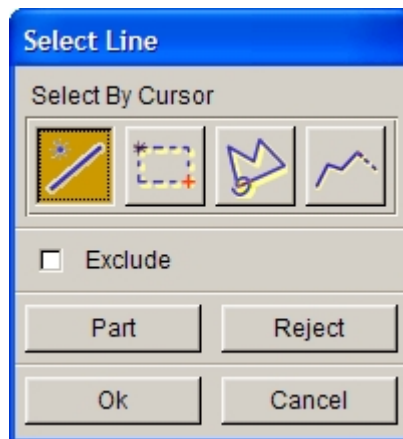

Figure 4.4.2 Select Line dialog box
- Click on the LINE(S) button to open SELECT LINE dialog box as shown in Figure 4.4.2.